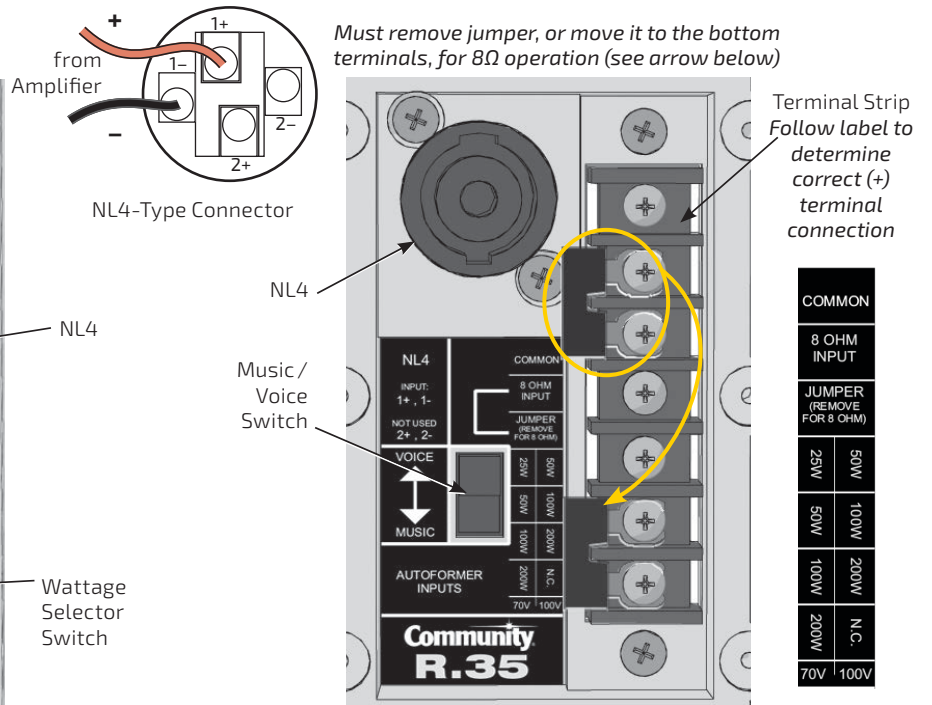

Figure 5b. R.35 input panel
R.35: Insert the cable through the gland nut and weather cover and wire the unit referencing the label for connections for your system voltage. See **Figure 5b**. There is a preinstalled jumper that should be left in the marked position for 70/100V use, or moved to the bottom terminals for 8Ω operation. **Failure to do so can result in damage to the loudspeaker and/or amplifier.** Set the Music/Voice switch to the desired position based upon your type of application. **The NL4 connection can only be used for low impedance 8Ω operation.**